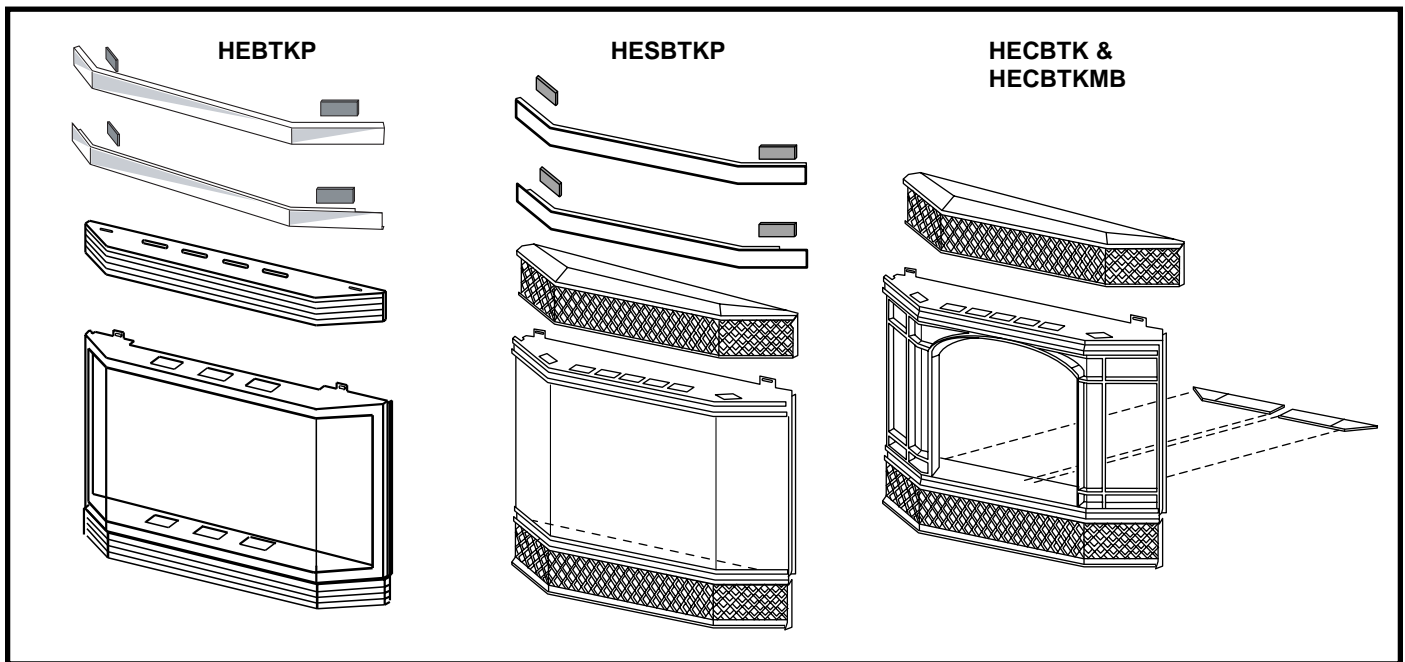

Fig. 46 Optional bay front windows available for use on the RHEDV32.
3. Install the two ceramic pieces inside the bay window, as shown in Figure 46.
4. Install the two ceramic pieces inside the bay window, as shown in Figure 46.